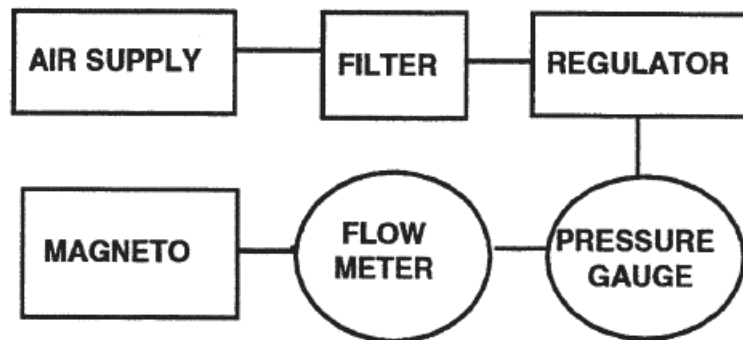

Figure 3-2. Pressurized Magneto Tester
- c. Connect the magneto to the Pressurized Magneto Tester as shown in Figure 3-2. Using dry, filtered air at 2.9 to 3.1 psig, flow rate must be between 0.00005 and 0.00025 lbs./hr. If flow rate is below 0.00005 lbs./hr, inspect the orifice for blockage. If flow rate exceeds 0.00025 lbs./sec, determine and correct the source(s) of the leakage. Repeat test following any corrective action.